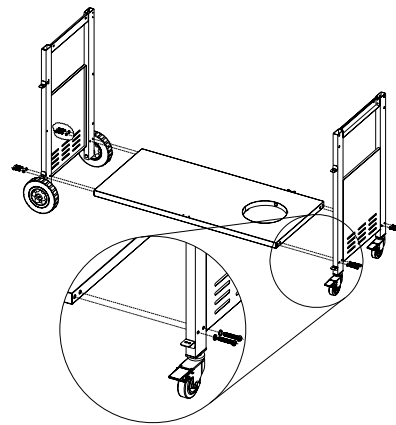

Figure 3
3. Assemble cart leg with bottom panel using (8) $1/4 \times 7/8$ " Phillips head screw and (8) $\frac{1}{4}$ " lock washers.(Fig.3)